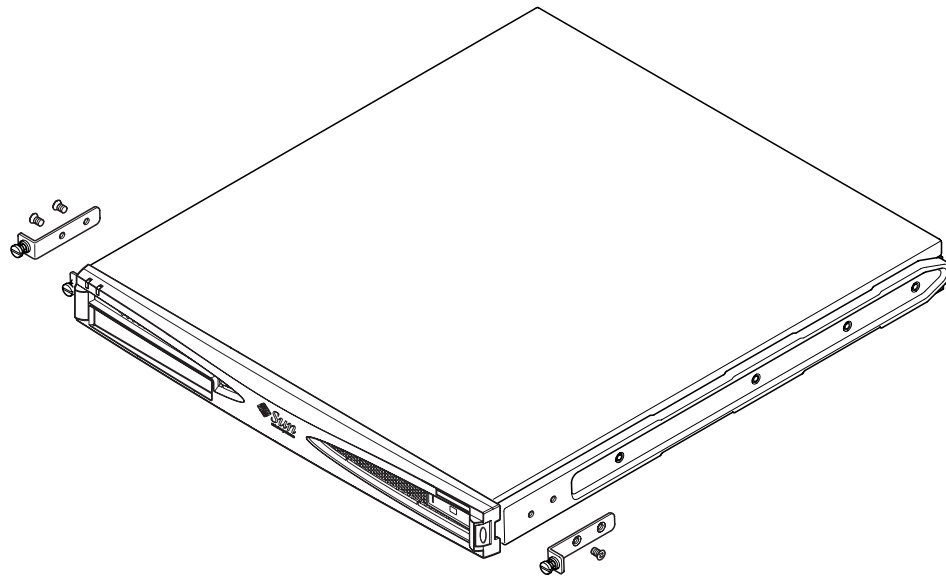

FIGURE 5-10 Removing the Thumbscrew Brackets
1. Remove the thumbscrew rackmounting brackets from either side of the server (see FIGURE 5-10).